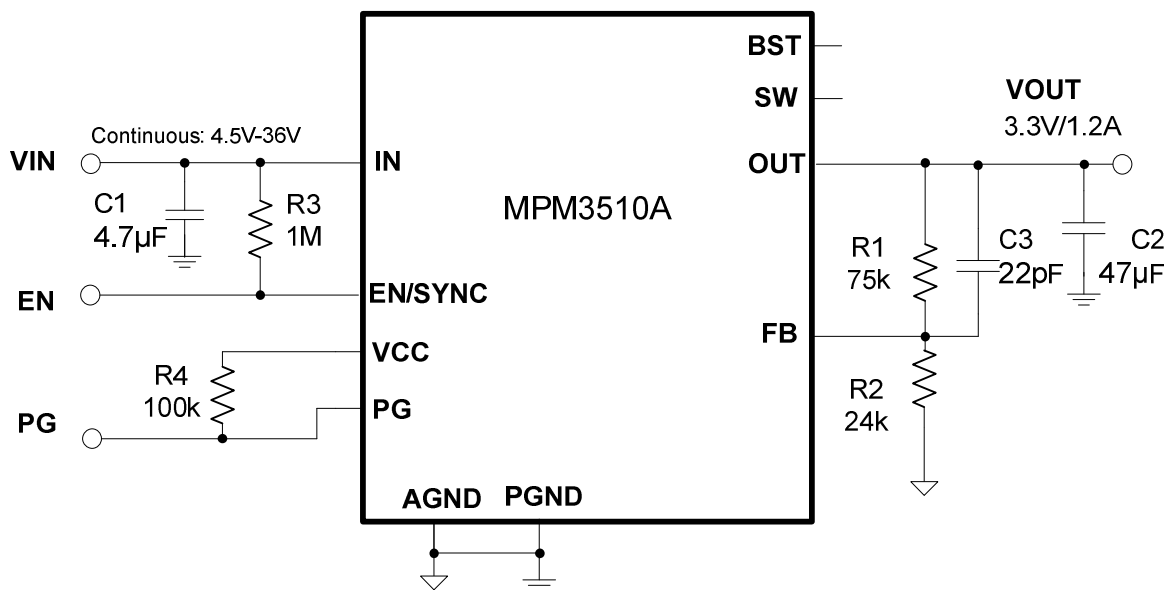

Figure 8: $V_{OUT} = 3.3V$, $I_{OUT} = 1.2A$
- 8) The recommended layout is based on Figure 8 and the "Typical Application Circuits" on page 18.
The detailed application schematic is shown in Figure 8. The typical performance and circuit waveforms have been shown in the “Typical Performance Characteristics” section. For additional device applications, please refer to the related evaluation board datasheets.